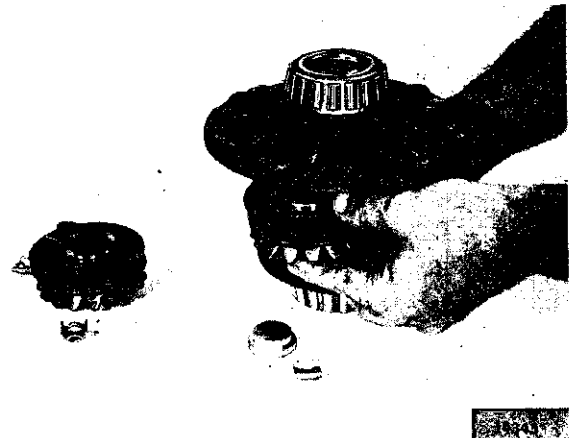

FIG. N-51—TRAC-LOK UNIT DISASSEMBLY
s. Remove the differential case from the axle shaft. Turn case with the flange or ring gear side up and allow the step plate tool side gear and clutch pack to be removed from the case. Remove the retainer clips from both clutch packs to allow separation of the plates and discs. Refer to Fig. N-51.